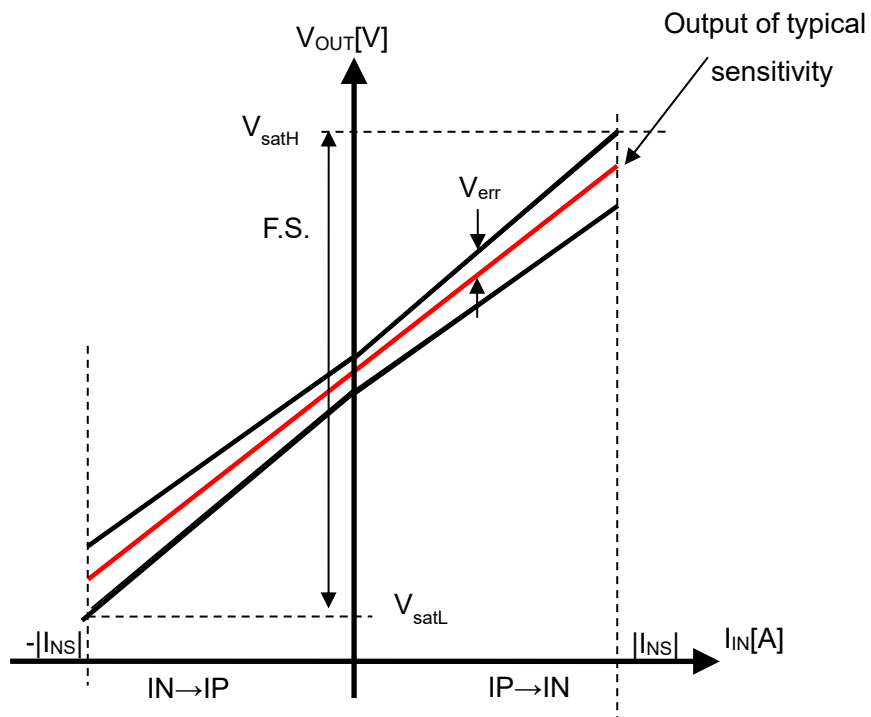

Figure 4. Total Accuracy of CZ-3AG1
10.2. Total Accuracy E_{total} [%F.S.] is defined as below (See Figure 4.)